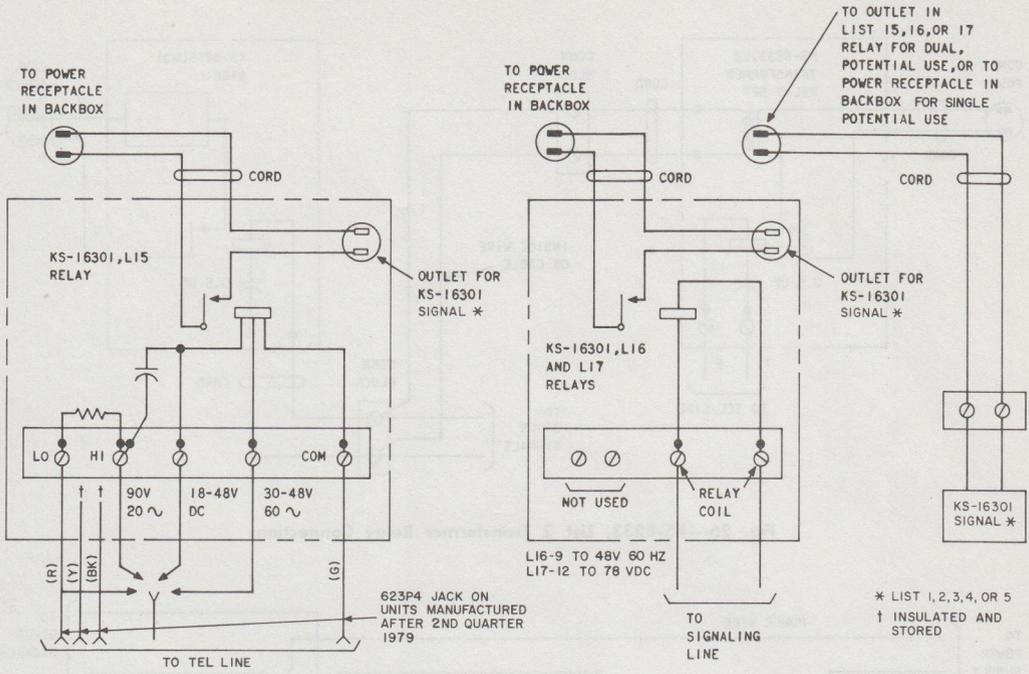

Fig. 24—KS-16301 Signal Connections
6.01 Connections for KS-16301 signals and relays are shown in Fig. 24.